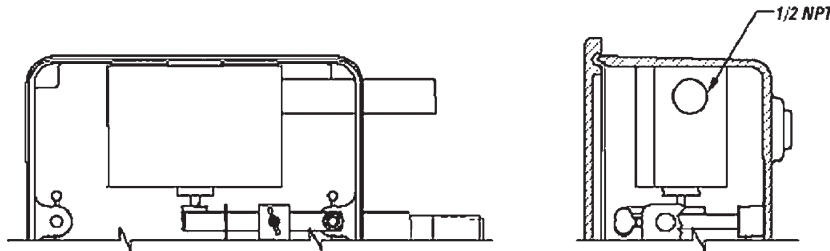

Figure 7 – Explosion-proof electric switch
**Explosion-Proof** switch pilots listed by UL and CSA for use in hazardous locations Class I, Div. 1, Groups C & D and Class II, Div. 1, Groups E, F & G. A switch listed for Class I, Div. 1, Group B is available. CSA requires the following statement for Class I, Group B: (see figure 7 next page)